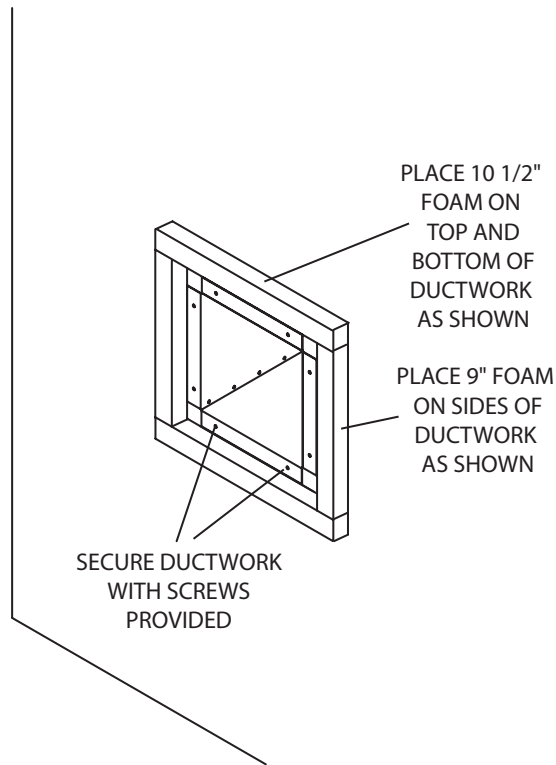

Figure 15. Placing insulating foam around square ductwork.
g. Secure ductwork with the 8 lag screws provided. Place the insulating foam around the ductwork as shown in Figure 15. This will ensure that you get a tight seal between the house and the KOZI Solar Hot Air Collector.